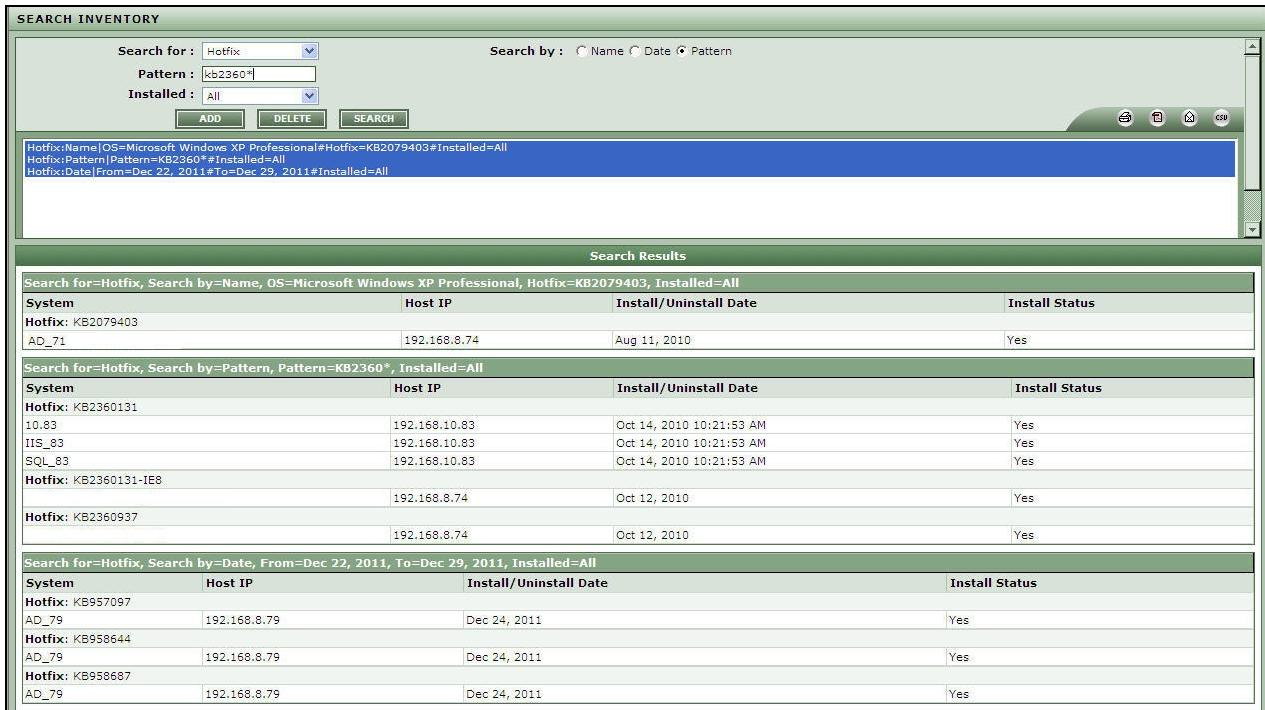

Figure 2.34: Inventory for multiple search of hotfix
- If multiple queries are to be executed simultaneously, select all the queries of interest to you from the list box, and click the **SEARCH** button as depicted in Figure 2.34. Each query will be executed independently, and the results of each query will be displayed in separate sections in this page. To execute all the queries in the list box at one shot, just click on the **SEARCH** button.